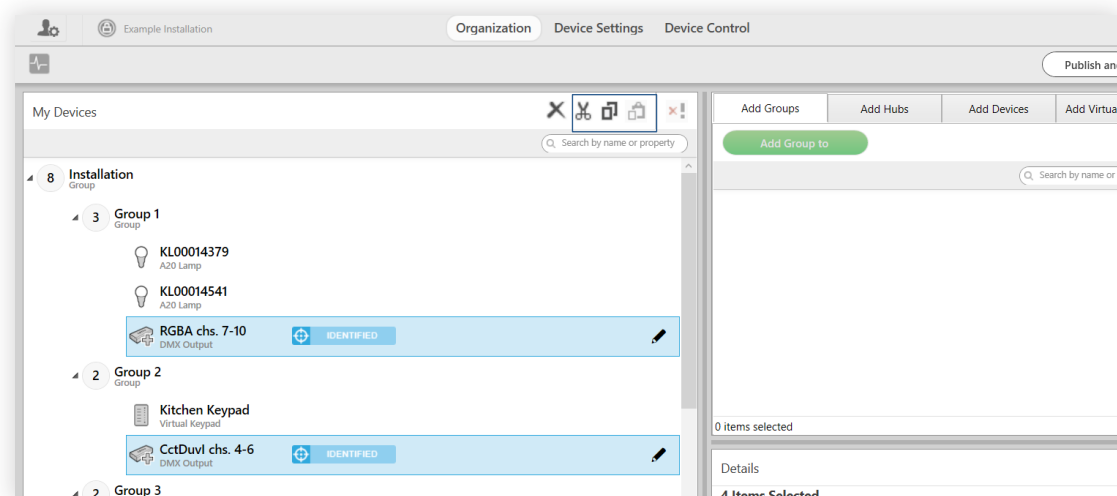

fig. 161
- ii Sort the profiles into groups using the **Cut/Copy/Paste** buttons or shortcuts. The buttons and corresponding shortcuts are shown in fig. 161. Note that you can have the same profile in multiple groups if needed. For example, you could use third-party lights as everyday lighting and safety lighting.